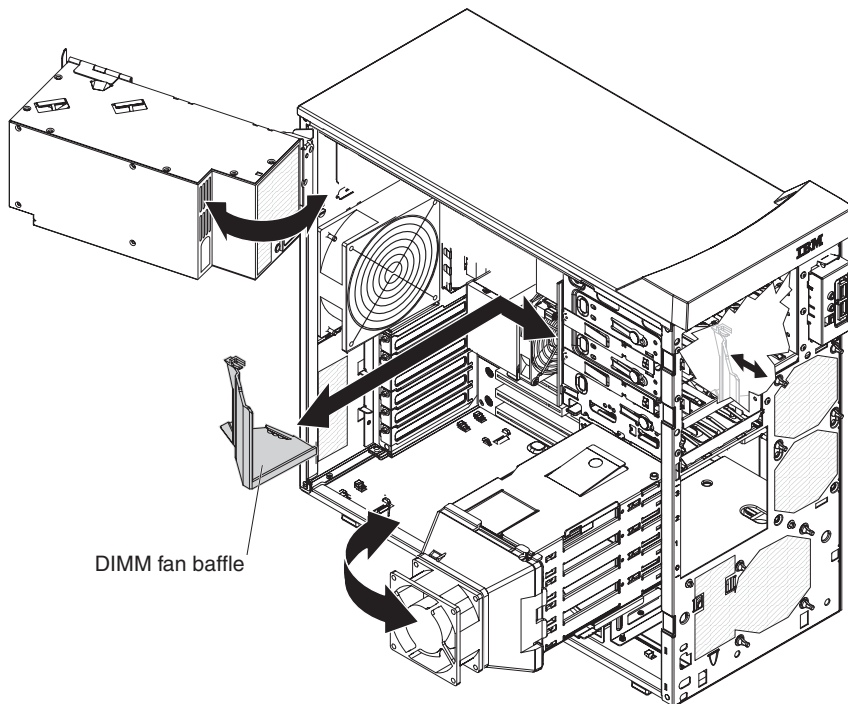

Figure 53. Installing the DIMM fan baffle
3. Slide the fan baffle into the fan baffle tab in the front of the chassis until it locks in place (see Figure 53).